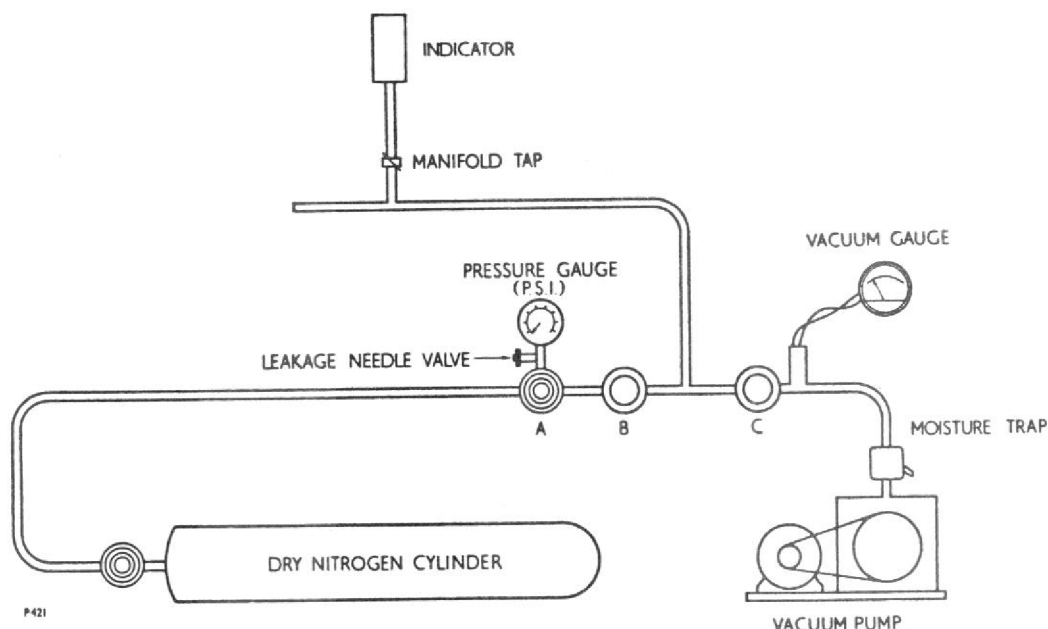

Fig.9 Sealing Test
- (1) Check that the adjustment of the jewelled bearings is correct, and then connect the indicator into a test circuit as shown at Fig. 9.